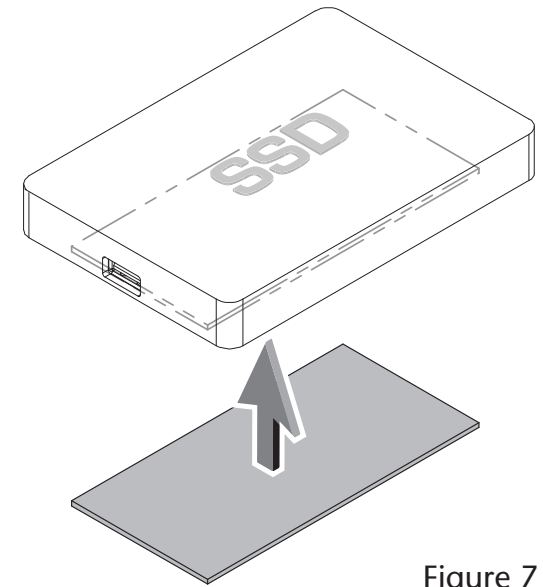

Figure 7
2. **OPTIONAL STEP:** If you are installing something other a spinning drive, remove the protective backing from a supplied magnet and apply it to the bottom of the device (**Figure 7**).